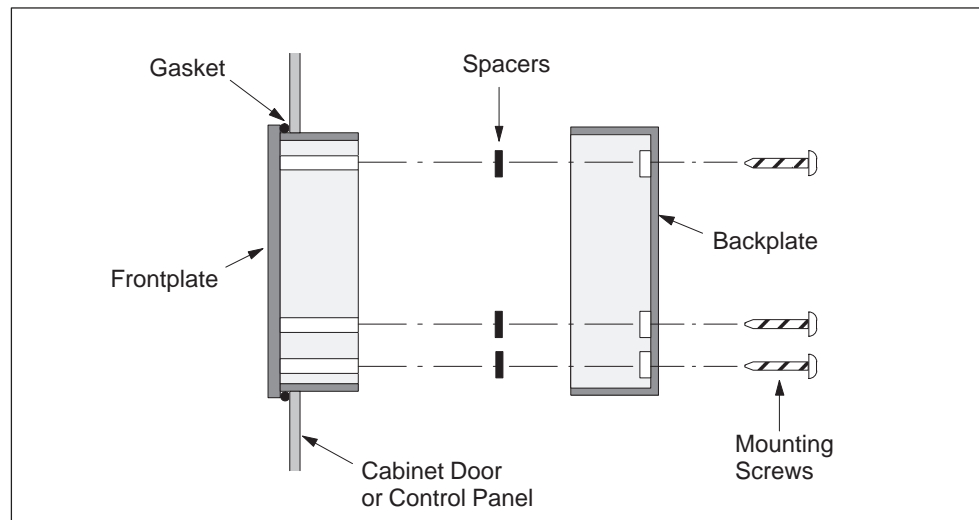

Figure 1-4 Positioning Spacers
Spacers	Self-adhesive spacers are included for mounting the TD 200 to a mounting surface. See Figure 1-4.
2. Place the spacers over the screw holes on the inside of the backplate. The spacers maintain pressure on the TD 200 circuit board when the TD 200 is reassembled. See Figure 1-4.
Use the following steps and refer to Figure 1-4 to complete the mounting of your TD 200.